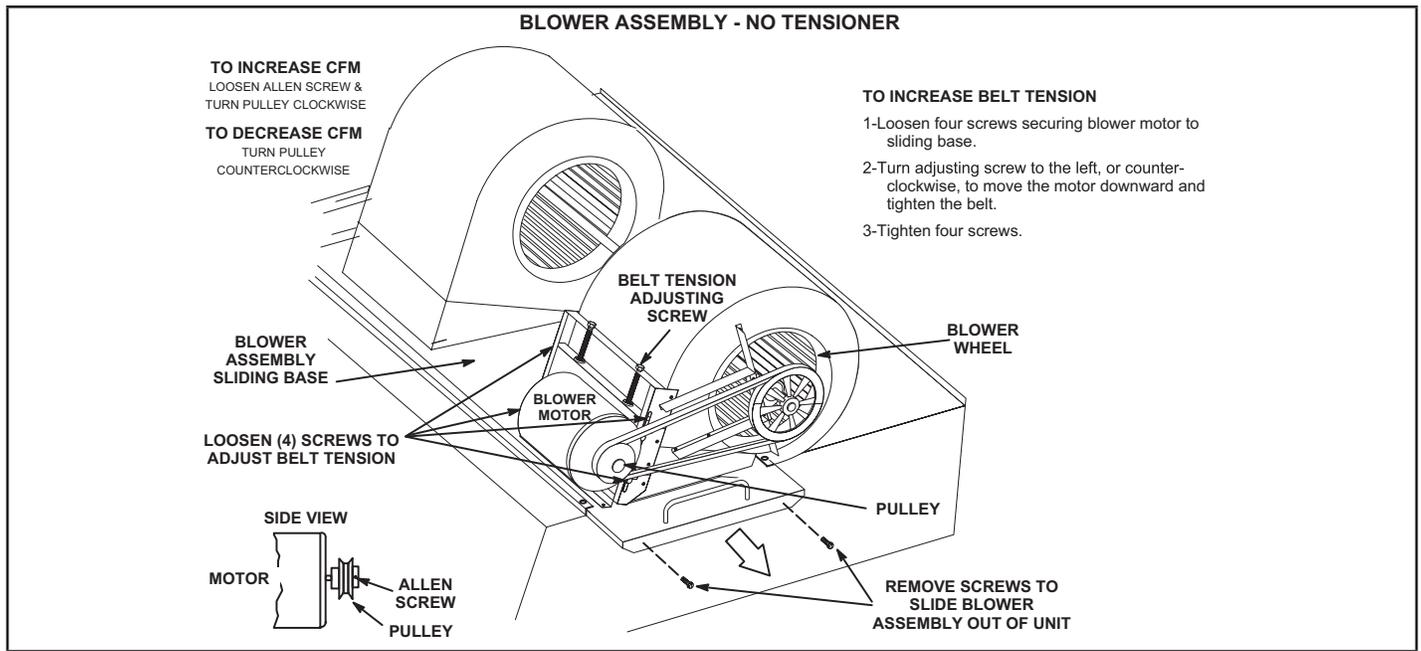

FIGURE 15
The blower compartment is located between the evaporator coil and the compressor / control section on the opposite side of the condenser coil. The blower assembly is accessed by disconnecting the blower motor wiring (and all other plugs) and removing the screws on either side of the sliding base. The base pulls out as shown in FIGURE 15.
- 2 - Remove screws on either side of blower assembly sliding base. See FIGURE 15.
- 4 - The blower RPM can be adjusted at the motor pulley. Loosen Allen screw and turn adjustable pulley clockwise to increase CFM. Turn counterclockwise to decrease CFM. See FIGURE 15. Do not exceed minimum and maximum number of pulley turns as shown in TABLE 6.
- 1 - Loosen four screws securing blower motor to sliding base. See FIGURE 15.